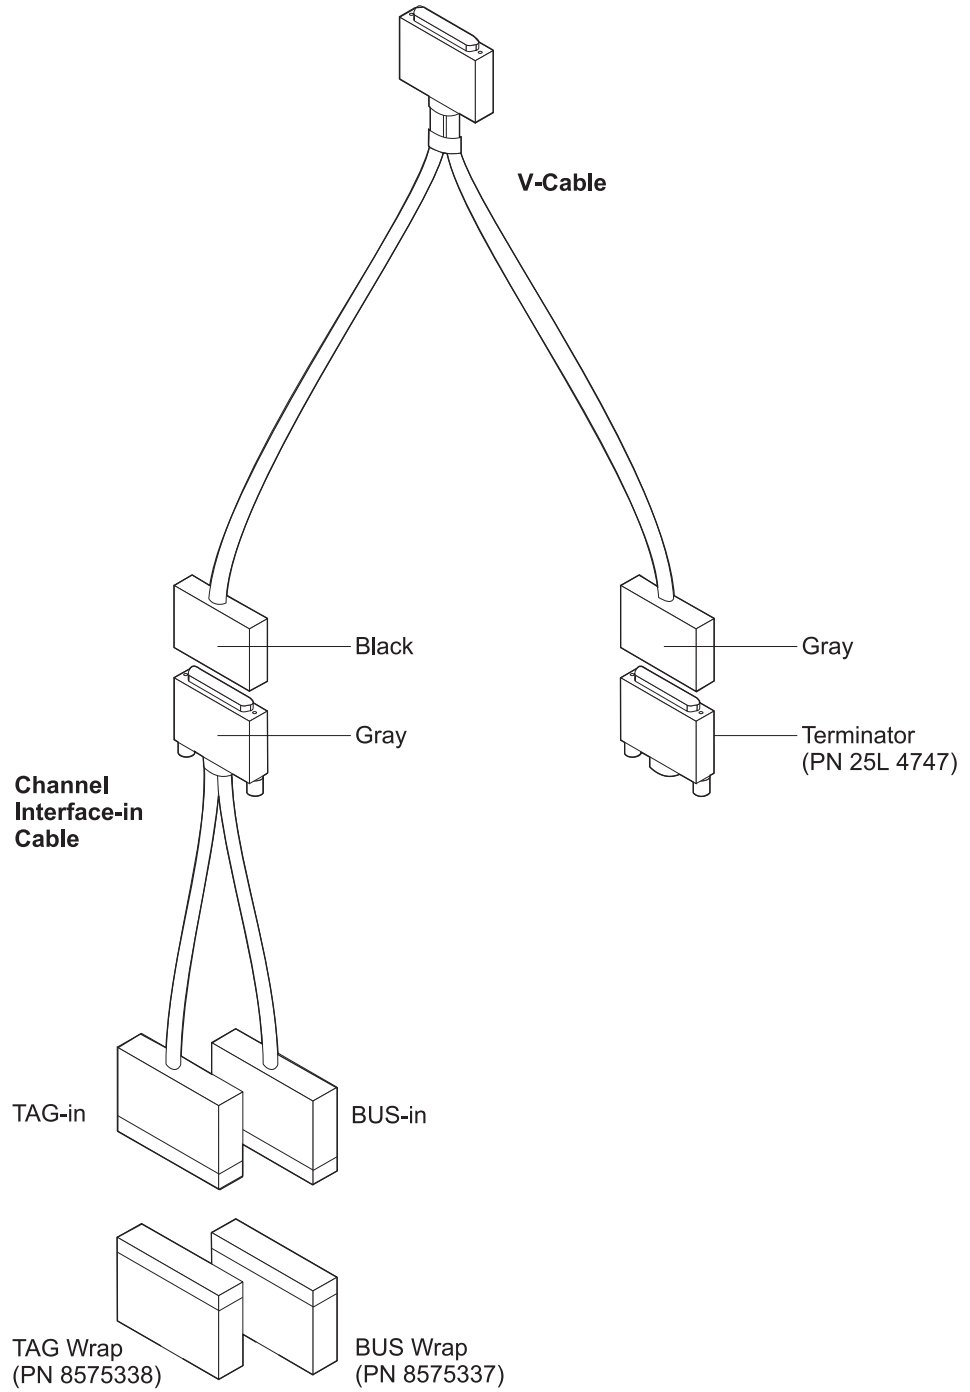

Figure 3-7. Channel Interface-in Wrap Test Connections
3. V-cable and the Channel Interface-in, see Figure 3-7 on page 3-11